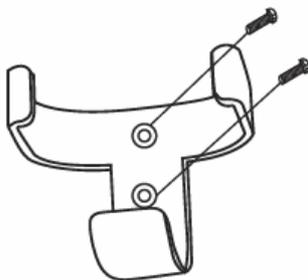

Fig. 10a
- Locate a suitable wall to fix the remote control holder with the 2 screws. (Fig. 10a).